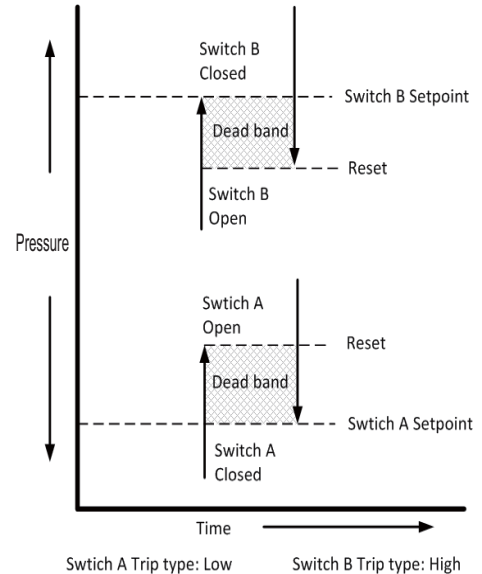

Figure 3-23 Switch Terminology
- ◆ Connect the calibrator to pressure switch as shown in Figure 3-23.